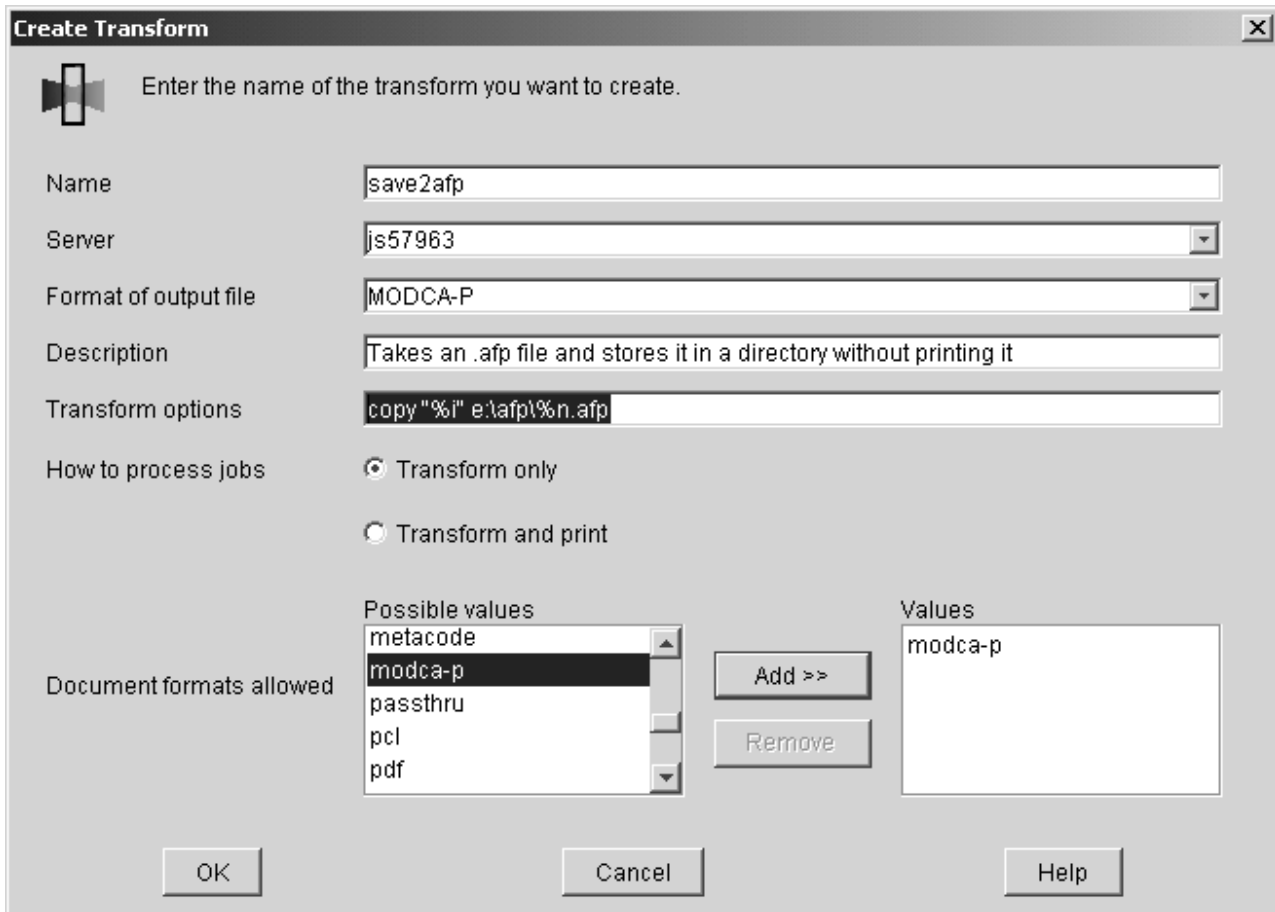

Figure 99. Create Transform dialog: define a transform that copies an AFP file to a directory without printing it
- In the **Create Transform** dialog, fill in the fields as shown in Figure 99 on page 246. These values create a transform that copies AFP input data to an \afp folder on a specific drive.